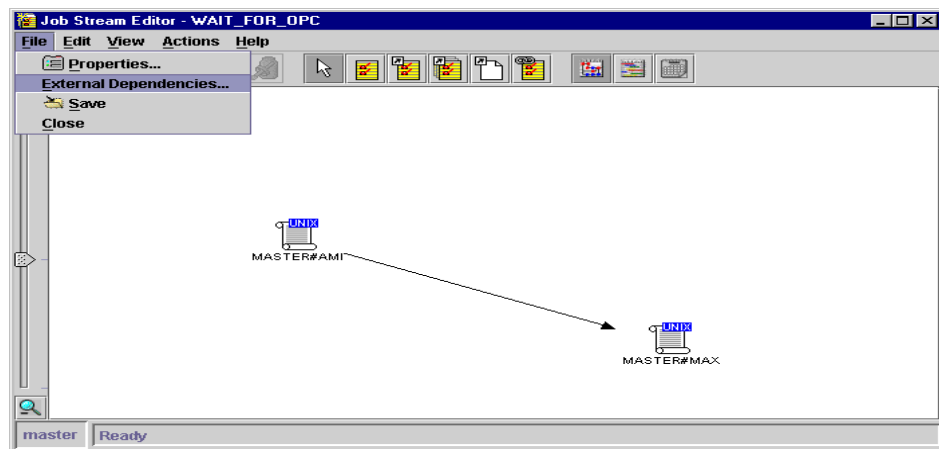

Figure 215. Internetwork dependency at the Schedule level
4. If you need the dependency at a schedule-based level, click the **File** pull-down menu and select **External Dependencies** as shown in Figure 215.